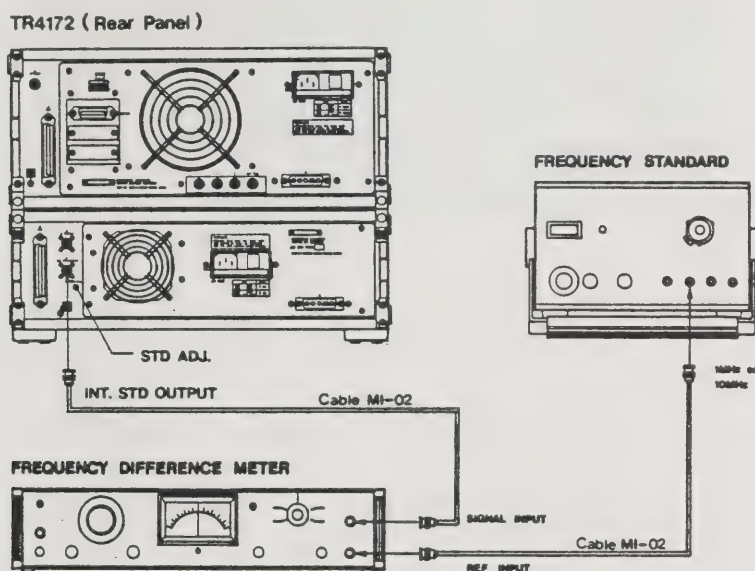

Fig. 11-1 Time base calibration
- (1) The time base oscillator output has a 10 MHz frequency and a level of approximately 5 V (TTL compatible). When 7 keys are pressed subsequently, the oscillator output is output at the INT. STD. OUTPUT (J4) connector on the rear of the instrument. The frequency accuracy of the oscillator output can be adjusted by the STD ADJ. screwdriver adjustment next to the J4 connector.
- (2) Prepare the measuring system as Figure 11-1, and adjust the STD ADJ. until the accuracy of each type of instrument is determined.